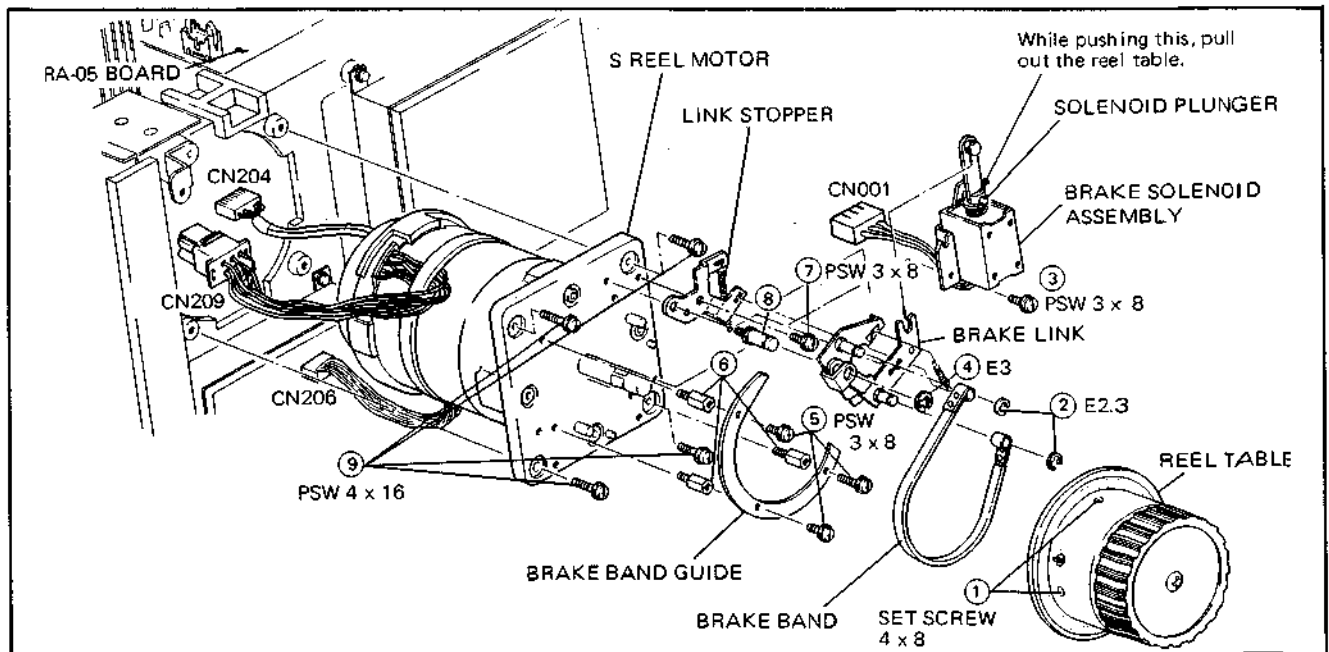
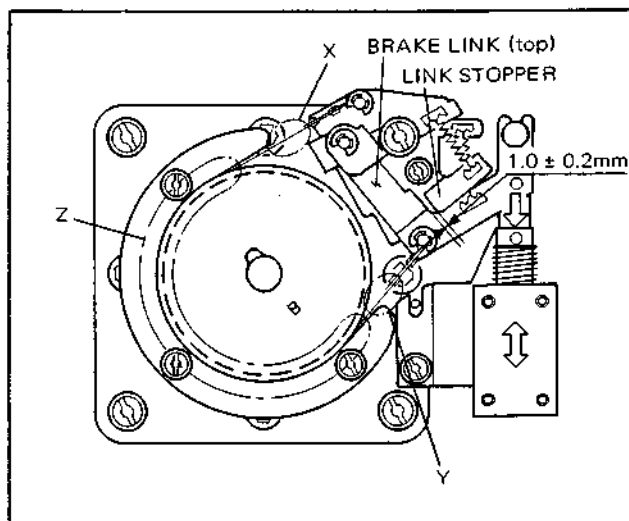

Fig. 3-17. Replacement of the S Reel Motor
Fig. 3-19. Link Stopper/Brake Solenoid Position Adjustment
3. Loosen the two set screws ① shown in Fig. 3-17. While pushing the solenoid plunger by hand, pull out the reel table.
4. Remove the two E rings ②, and remove the brake band.
5. Remove the screw ③, and remove the brake solenoid assembly.
6. Remove each one end of the two springs applied between link stopper and brake links. Remove the E ring ④, and remove the brake links.
7. Remove the three screws ⑤, and remove the brake band guide.
8. Remove the three brake band posts ⑥.
9. Remove the set screw ⑦ and the brake post ⑧ securing the link stopper.
10. Remove the four screws ⑨, and remove the S reel motor.
18. Place the brake link onto the brake post and fix it with E-3 ring ④ (see Fig. 3-17).
20. Lightly fix the brake solenoid assembly with the screw ③.
22. Do not push the plunger and adjust the position of the link stopper so that the clearance between the link stopper and the brake link (top) is the value shown in Fig. 3-19.
23. When the plunger has been pressed, adjust the position of the brake solenoid so that the brake band is not transformed at the "X" and "Y" locations shown in Fig. 3-19, and the clearance between the brake adjustment fixture and the brake band is 0.2 mm or more all along the "Z" location. After the adjustment, fix the brake solenoid with a PSW3x8 screw.